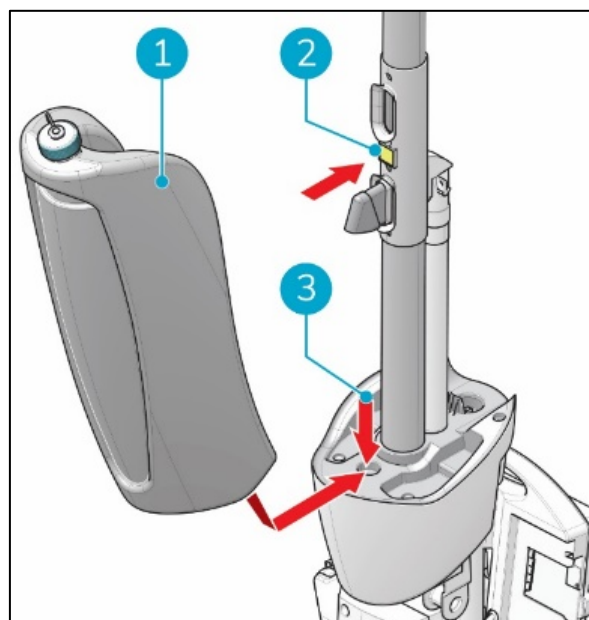

Figure 11
1. Put the bottom of the recovery tank (Figure 11, pos 1 and pos 3) on the front of the i-mop® XXL plus.
2. Push the top of the tank into place until you hear a "click" sound, the magnet (Figure 11, pos 2) will lock the recovery tank into place.